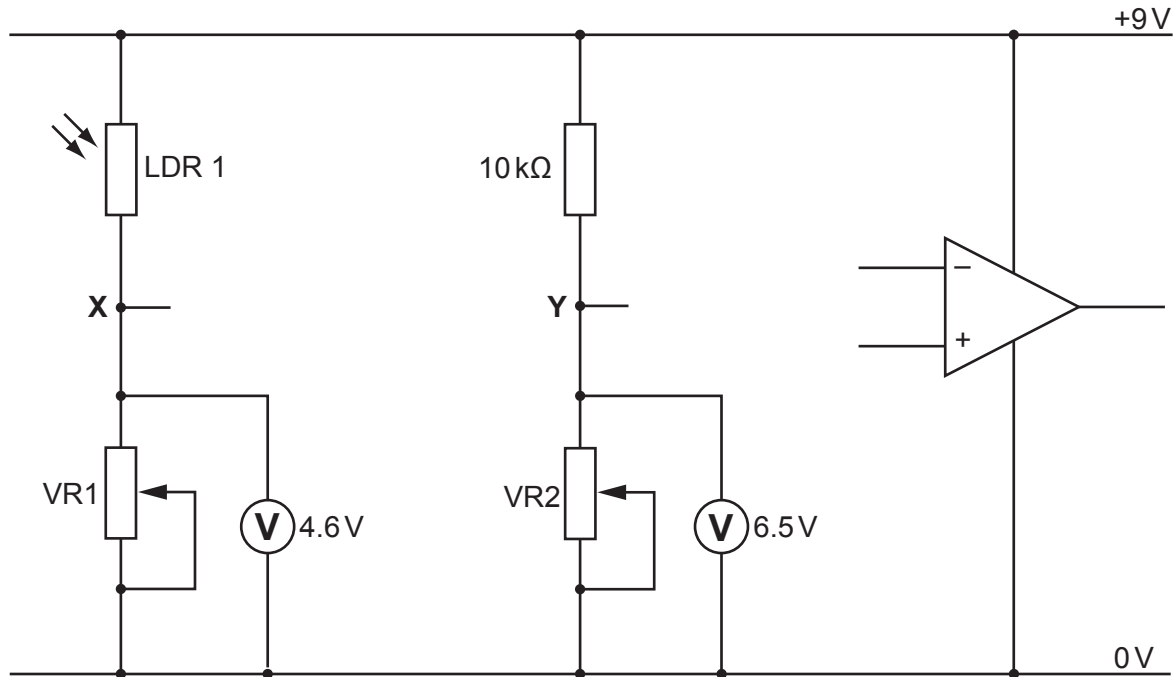

Fig. 12.3
(b) Fig. 12.3 shows part of a circuit for a light operated switch which will give a high output in the dark.
- (i) On Fig. 12.3 make the following connections: